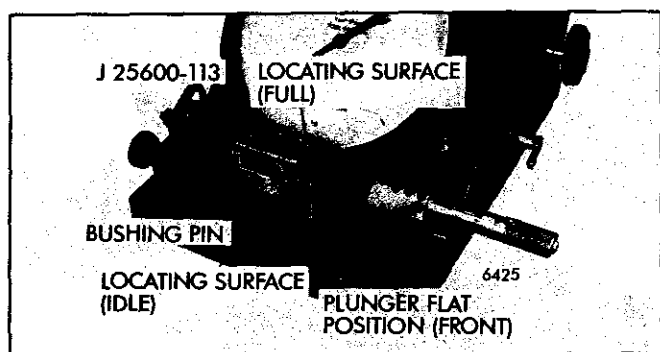

Fig. 15 Cradle Mounted on Fixture
- Select the proper cradle for the plunger/bushing to be tested and mount on the fixture (Fig. 15).
5. Place the plunger/bushing in the cradle. Be sure the plunger flat and locating pin or slot is properly positioned (Fig. 15). To check in *full-fuel* position, rotate bushing until the bushing pin contacts the rear locating surface.